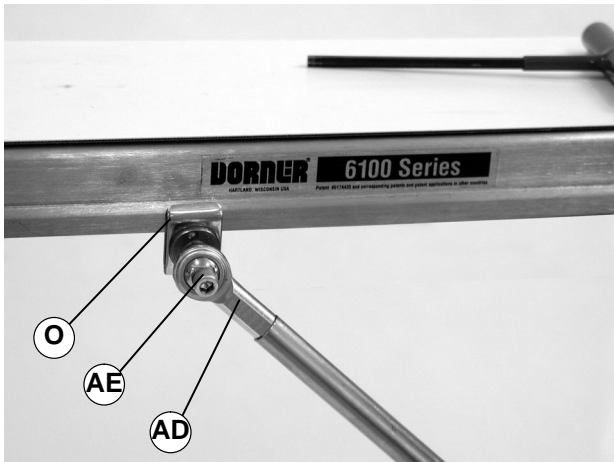

Figure 10
- b. Attach the diagonal brace end (AD of Figure 10) to the mounting clip (O) with socket screw (AE).
<h2 style="margin: 0;">WARNING</h2> <p style="margin: 0;">Failure to secure screw (AE of Figure 10) may cause conveyor sections to drop down causing severe injury.</p> <p style="margin: 0;">TIGHTEN SCREW (AE) AFTER ADJUSTMENT.</p>
- c. Tighten screw (AE of Figure 10) to 100 in-lb (11 N-m).